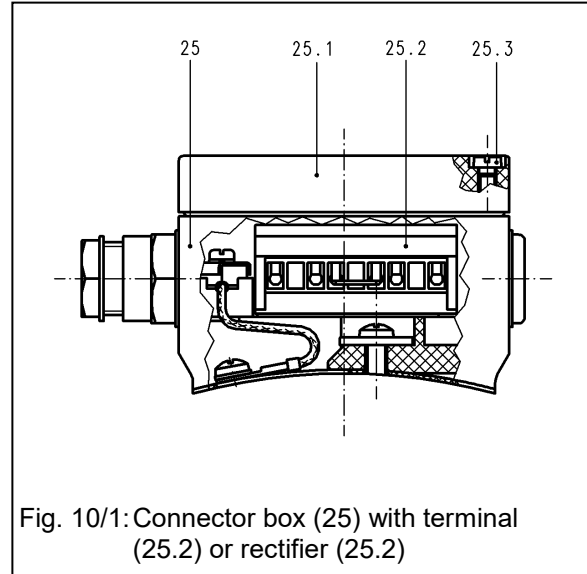

Fig. 10/1: Connector box (25) with terminal (25.2) or rectifier (25.2)
The spring-applied single-disc brake must be supplied with DC voltage. Connection to an AC power source is via a half-wave, bridge or overexcitation rectifier (25.2). Brakes with connector box (25) and built-in rectifier (25.2) can be connected directly to the AC mains. The contact assignment is shown in Fig. 10/1. Brakes equipped with connector box (25) and connecting terminal (25.2) resp. connecting cable must be connected directly to DC voltage. The customer-specific connecting cable must be connected to the terminals (25.2) or built-in rectifier (25.2) by means of a cable gland (14) (PG 11, clamping range 7.5 to 10 mm). Remove the cover (25.1) of the connector box (25) so that the individual strands of the connecting cable can be connected to the terminals (25.2) or to the contacts of the built-in rectifier (25.2).
When using brakes with built-in rectifier (25.2), the supply voltage is rectified by means of a half-wave rectifier (25.2). The built-in rectifier (25.2) can be wired in such a way that AC side switching (normal coupling time  $t_1$ ) or DC side switching (short coupling time  $t_1$ ) is possible (see Fig. 10/1). Various Kendrion rectifiers are available (see Table 8/1, list not exhaustive) for direct brake connection to an AC power source via the built-in connecting terminal (25.2). Depending on the brake size and torque, voltage ripple due to intermittent power supply may cause brake humming or incorrect brake operation. Perfect brake operation must be ensured by the user or system manufacturer by providing suitable electrical controls.